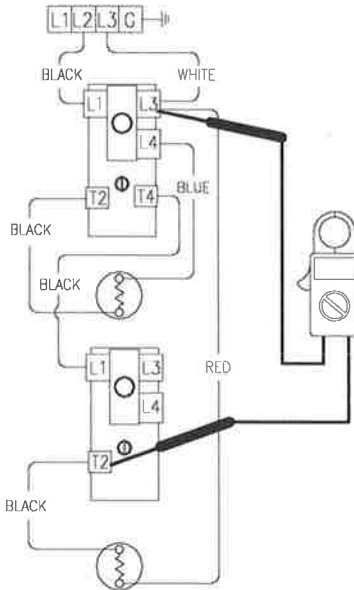

Figure 32
7. Check voltage across terminal L3 of upper thermostat & T2 of lower thermostat. (see Figure 32).
4. See Figure 32 above. Check across terminal L3 of upper thermostat & T2 of lower thermostat.